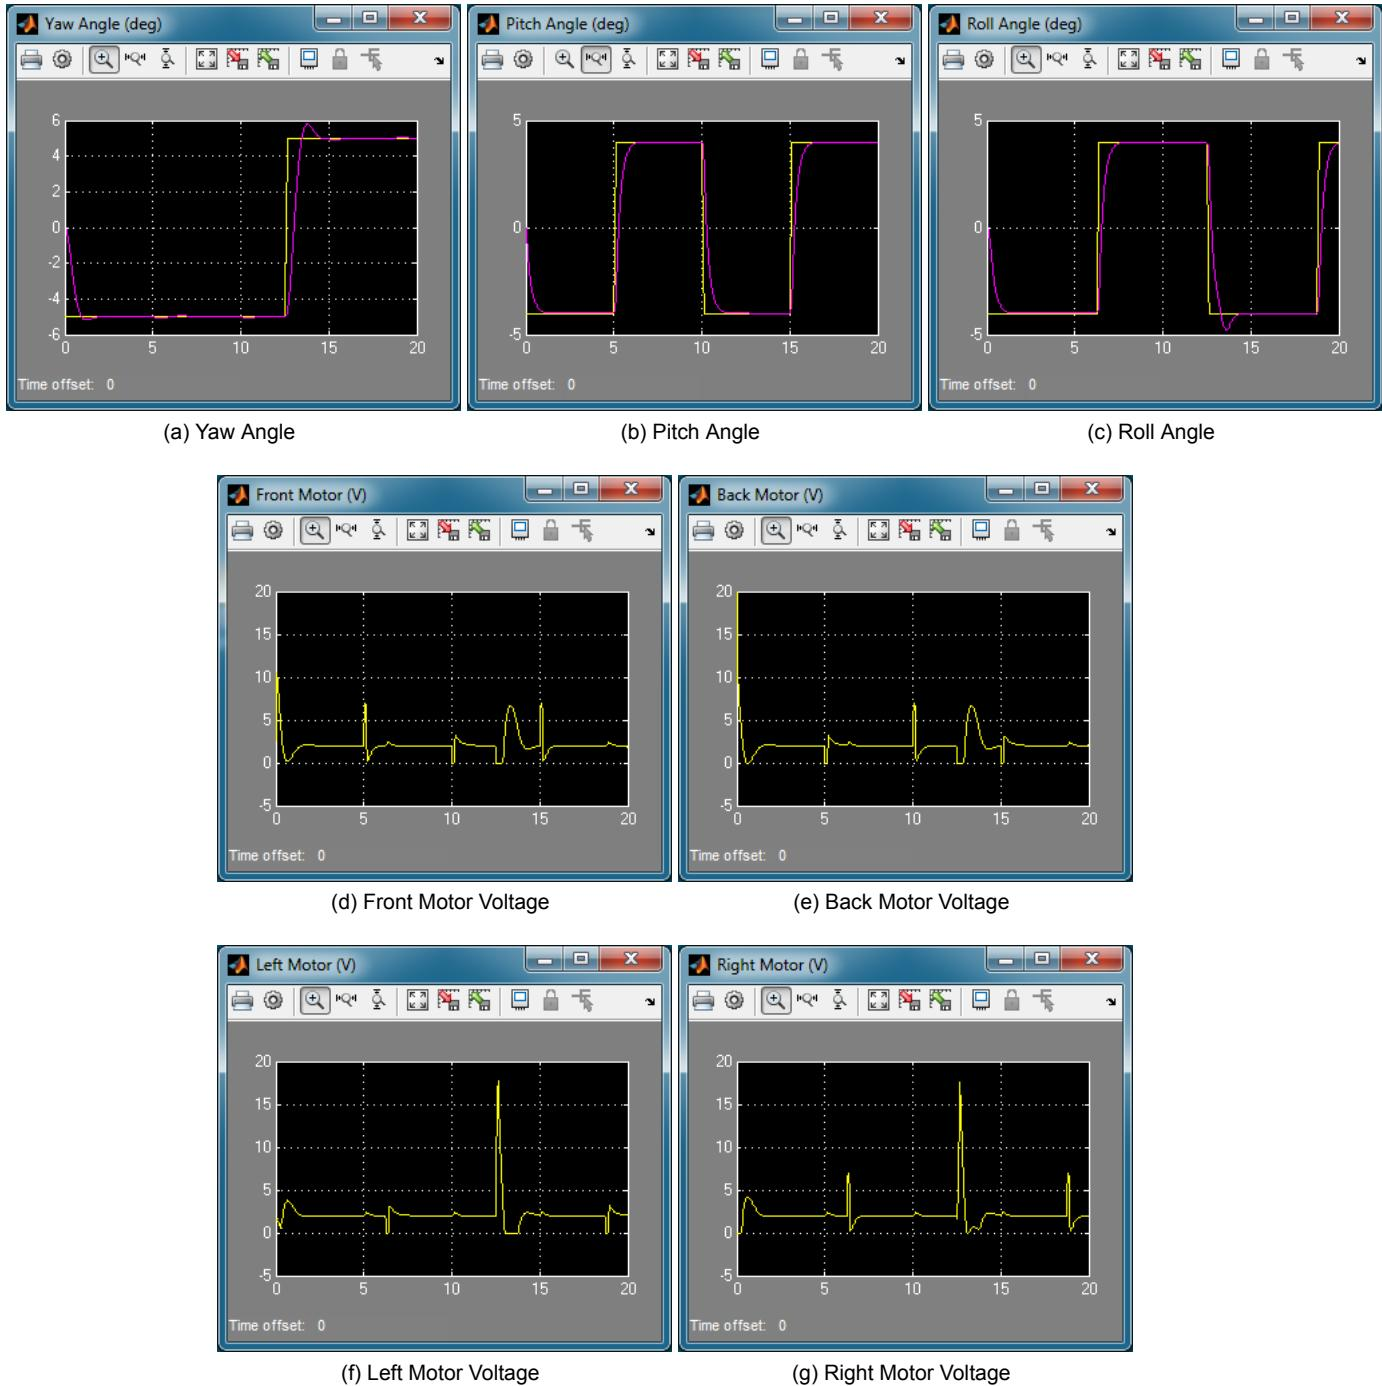

Figure 3.2: Simulated closed-loop response
7. Start the simulation. The scopes should be displaying responses similar to Figure 3.2. The yaw, pitch, and roll angles should track the commanded square position signal scope. The Saturation block only allows positive control voltages and limits them to a maximum of 24V (which can be changed). At low command angles, the voltages are changing about the bias voltage 2 V, i.e.,  $V_{bias} = 2V$ .